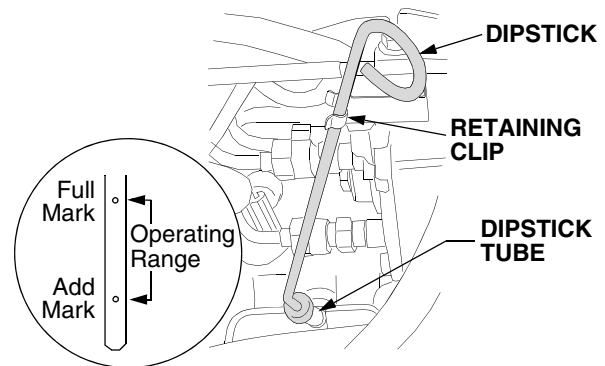
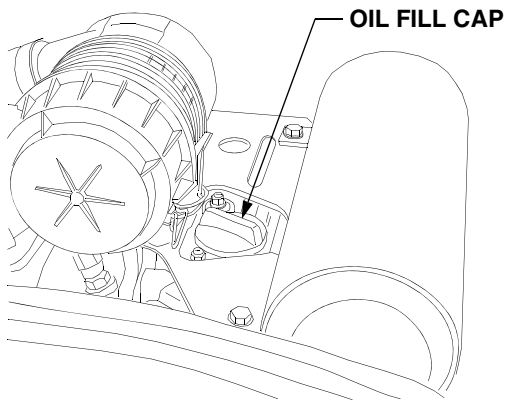

Figure 51
Figure 52
- Check the oil level only while the engine is stopped and the tractor is level. Clean the area around the oil level dipstick to prevent debris from entering the crankcase. See Figure 51.
- Always keep the oil level between the full and the add marks on the dipstick. See Figure 51.
- Clean the area around the oil filler cap to prevent debris from entering the crankcase. See Figure 52.
- SLOWLY pour oil into the crankcase until the oil level reaches the "FULL" mark on the dipstick. Refer to Figure 51.
- Remove the dipstick and oil fill cap from the engine. Refer to Figure 51 and Figure 52.